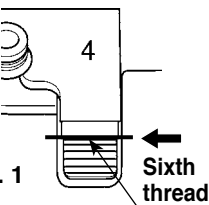

Fig. 1
2-3. Re-check: Are the 6th threads of sub clamp catch plates ① and ④ aligned with the gauge? (See Fig. 1.)